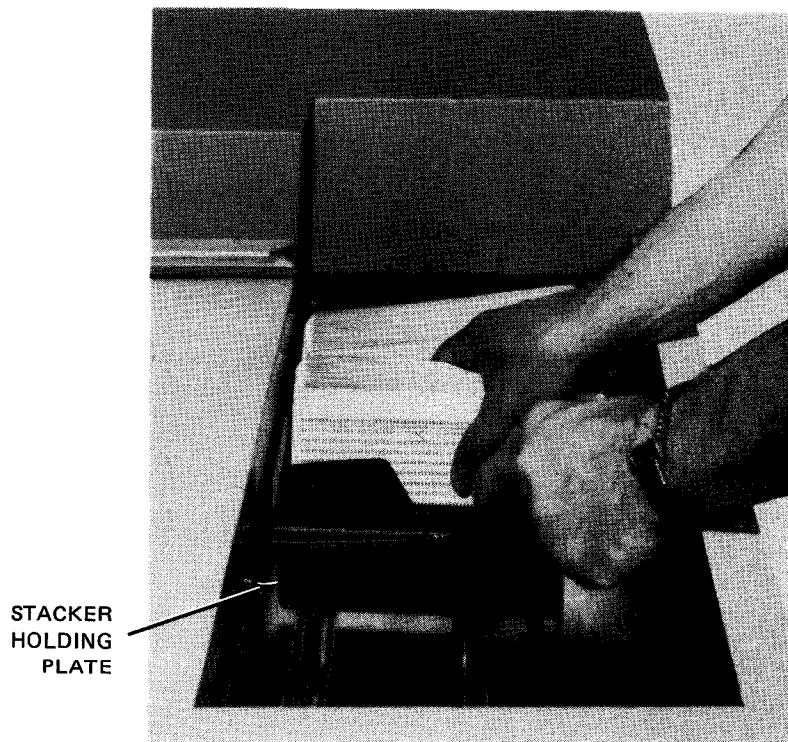

Figure 6—15. Removing Cards From Stacker
1. Select a handful of cards to be read. Fan cards (Figure 6—14a) so that they will feed properly.
2. Place cards on feed tray so that the face of the card is toward the feeder and row 9 is down (Figure 6—13a). Joggle cards against left feed guide of hopper (Figure 6—14c).
3. Place cards against card feed follower plate (Figure 6—14d). Maintain pressure at the bottom of cards.
4. Raise the card feed follower plate (Figure 6—14c), draw it backward and lower it, so that it will press against the newly loaded supply of cards.
1. While maintaining a slight pressure on card backs, retract stacker holding plate and grasp a quantity of cards nearest to holding plate (Figure 6—15).
2. Raise card transport mechanism cover (Figure 6—16a) for access to the card transport panel.
3. Locate jammed card (Figure 6—16b).
4. Release timing diverter gate lock (Figure 6—16b) by raising knurled locking pin on gate.
5. Swing diverter gate away from jammed card (Figure 6—16c) and lift card away from card transport mechanism.
6. Rotate manual feed control (Figure 6—16c) to direct next card to proper path.
7. Close diverter gate and lock in proper operating position by allowing lock tip to enter the hole on the transport panel (Figure 6—16d).